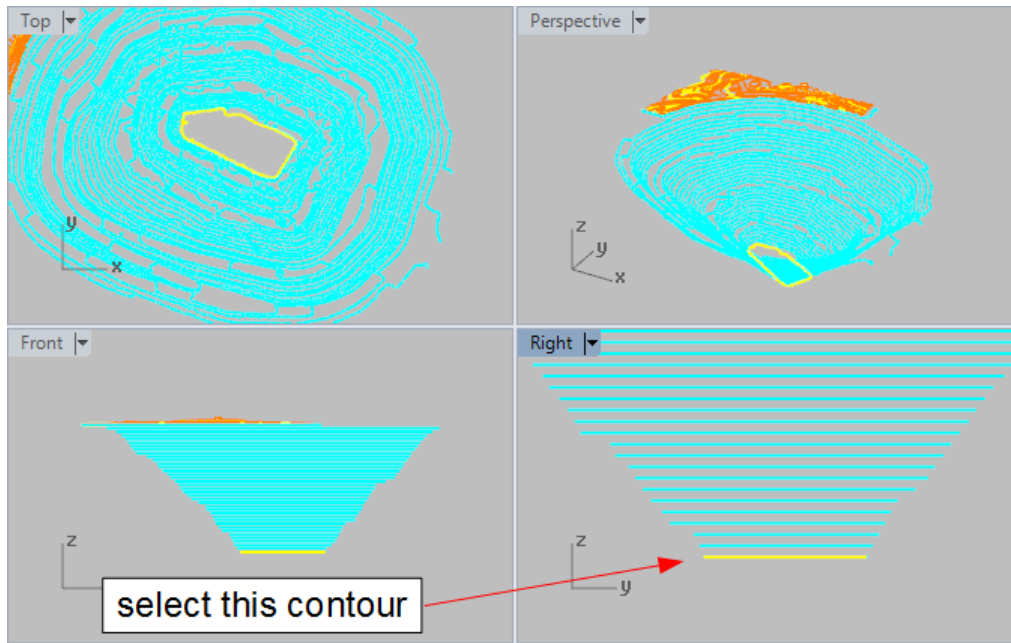

Figure 113: The highlighted contour line represents the floor of the pit.
9. In the Front or Right view, zoom in to the pit bottom, and select the contour line representing the floor of the pit (Figure 113).